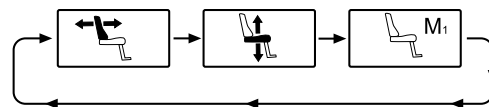

Figure 39. Move the joystick to the left or right to select a function. The icon for the function selected appears in the display
1. Press the "Mode" button one or more times until an icon for seat function appears in the control panel display. See figure 39.
Figure 39 shows an example of the icons that may be shown in the display. Which icons are shown varies depending on the seat model and available functions.